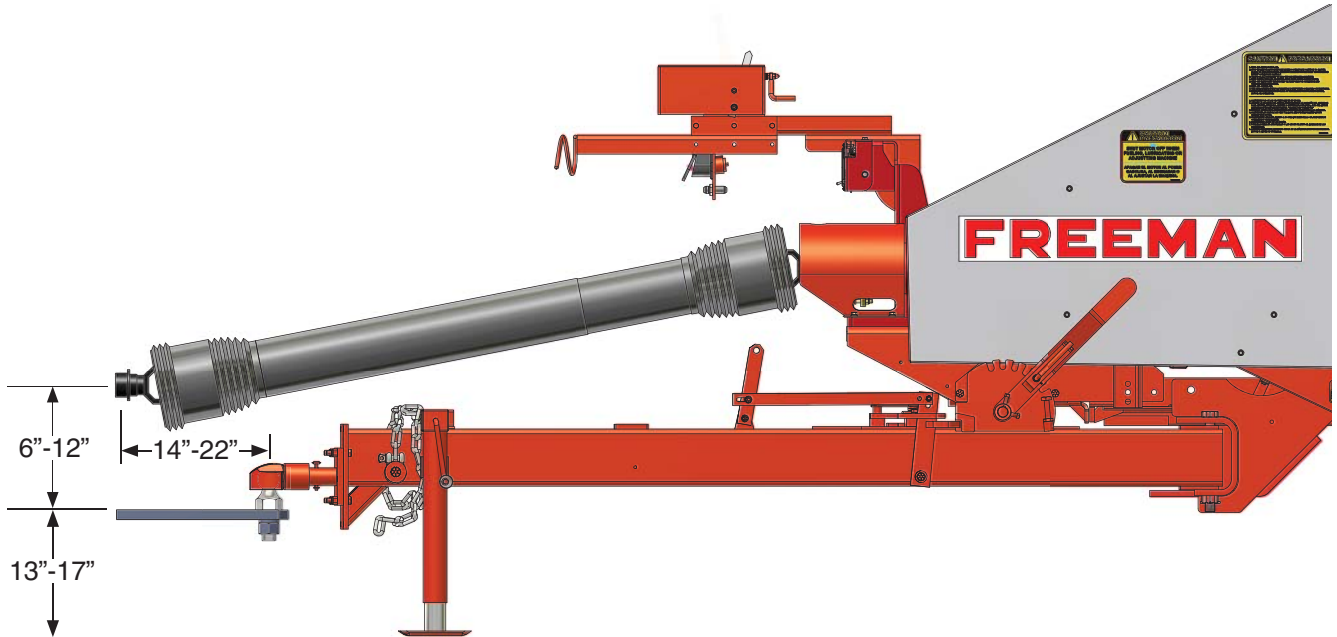

Figure 2 - Driveline Attaching Measurements, One Piece Driveline.
- Be sure the tractor and baler connection meet the requirements shown in Figure 2 above.